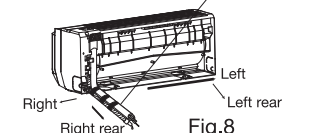

Fig.8
- Take out the piping from case, wrap the piping electric wire, water tape and pull them through the piping hole (As show in Fig.8)